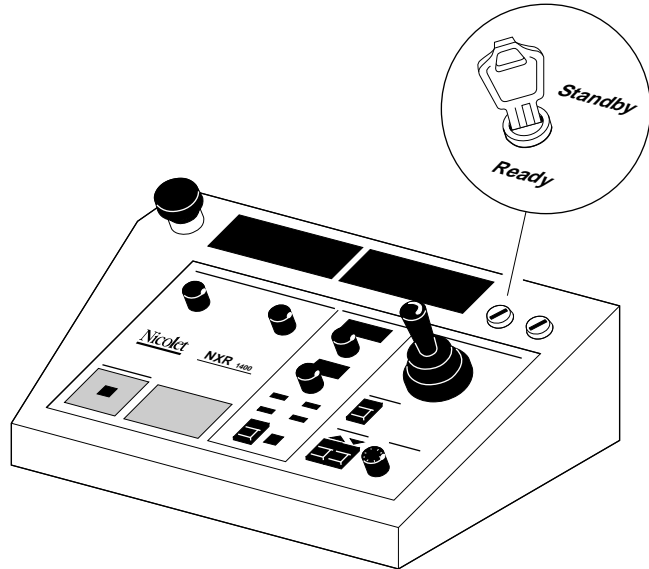

Figure 6 - NXR in the Standby mode
Any time you leave the NXR system or will not be using it for a while, set the system to the *standby* mode (Figure 6) and then remove the **X-ray** key. The *standby* mode disables the x-rays and helps guard against unauthorized use of the system.
1. Turn the key in the **X-ray** key switch to *standby* (Figure 6).